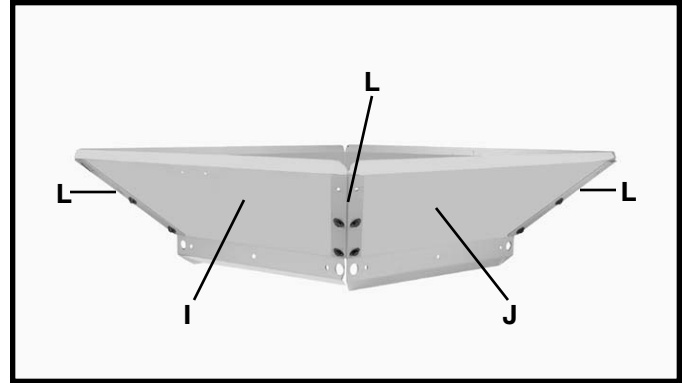

Fig. 11
2. Attach 4 skew board brackets (L), to the bottom of skew boards (I) & (J). Insert a 1/4-20x5/8" flange screw through the hole in the skew board bracket and skew board, and thread a 1/4-20 flange nut onto the 1/4-20x5/8" flange screw and tighten securely. Repeat this process for the remaining two bottom holes in the skew board brackets and the skew boards, as shown in Figs. 11 and 12. **NOTE: ONLY FASTEN SKEW BOARD BRACKETS TO THE SKEW BOARDS WITH THE TWO BOTTOM HOLES IN BOTH THE BRACKET AND BOARD, THE TOP HOLES WILL BE USED LATER.**